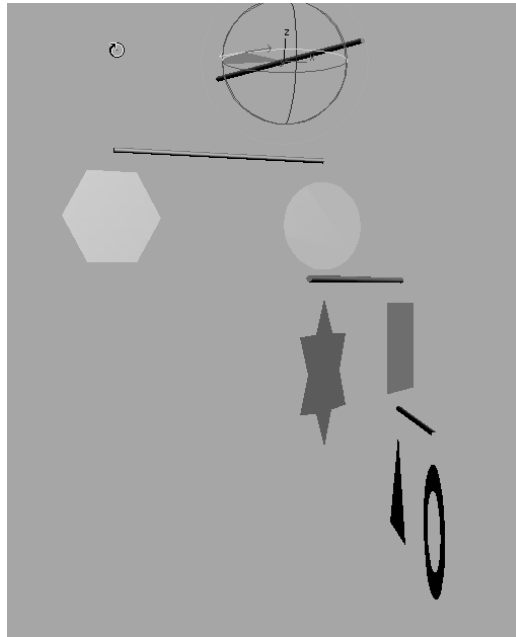

Figure 2.29
5. With the Rotate tool, select the top bar and rotate it in either direction on the Z-axis. The entire mobile will rotate along with it, because the top bar is the top parent of this hierarchy (Figure 2.29).